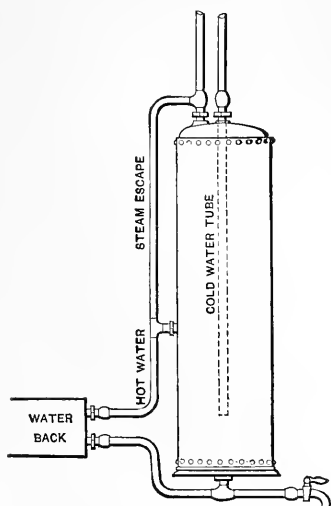

Fig. 1.—Remedy for Noisy Range Boiler.
*From W. N. N., Washington, D. C.*—I notice a description of a noisy range boiler, by "F. H. & N.," Dundee, N. Y. If your correspondents will change their boiler connections, as shown in Fig. 1 of